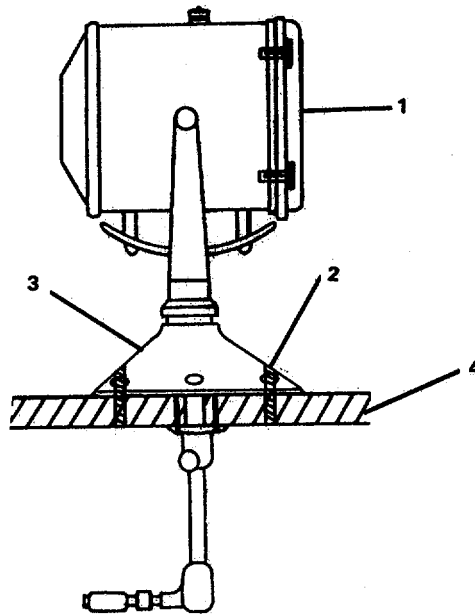

FIGURE 3-47. *Replace/Repair Searchlight.*
**3-47. Replace/Repair Searchlight. (Figure 3-47)**